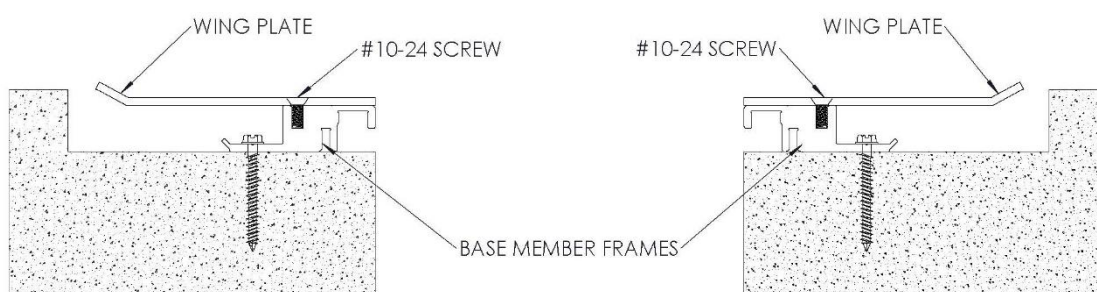

FIGURE 3
3. Reinstall the wing plate to the base member frame with the #10-24 screw. *Note: This step not necessary on the 2" and 4" size.* **See Figure 3**